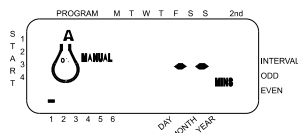

Figure 12: LCD Display with Manual Operation
- Press the Manual key. Then press Next three times. The display will show a blinking cursor on station 1 along with - - MINS. [See Figure 12]